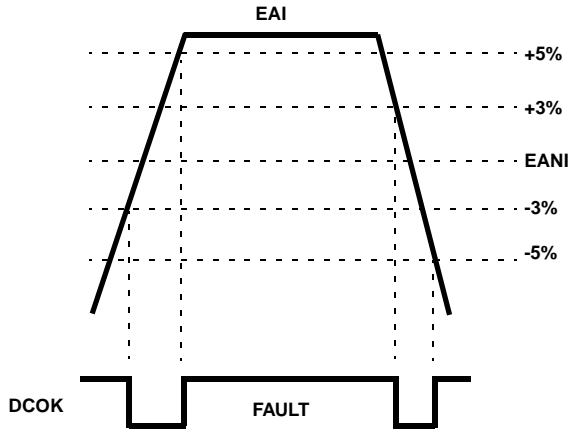

FIGURE 11. UNDERVOLTAGE-OVERVOLTAGE WINDOW
- DCOK pin is an open drain output capable of sinking 5mA. It is low when the output voltage is within the UVOV window. The static regulation limit is $\pm 3\%$, while the $\pm 5\%$ is the dynamic regulation limit. It indicates power good when the EAI is within -3% to $+5\%$ on the rising edge and within $+3\%$ to -5% on the falling edge, as shown in Figure 11.